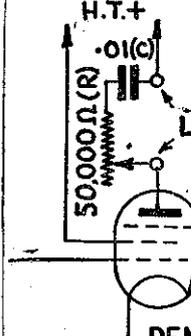

Fig. 2.—How tone is regulated by fitting a resistance and condenser across the loud-speaker terminals.
A pentode always does give emphasis to the higher frequencies, but it is not a difficult matter to regulate the tone by fitting a resistance and condenser across the loud-speaker terminals, as shown in Fig. 2 given herewith. The resistance (R) should have a value of about 50,000 ohms, and may be either fixed or variable. If variable the tone can be controlled as desired. The condenser (C) should be of about .01 mfd. capacity. When the speaker is fed through a transformer the tone control should be put across the primary winding of the transformer. If choke-capacity feed is employed the correct position is in parallel with the choke.